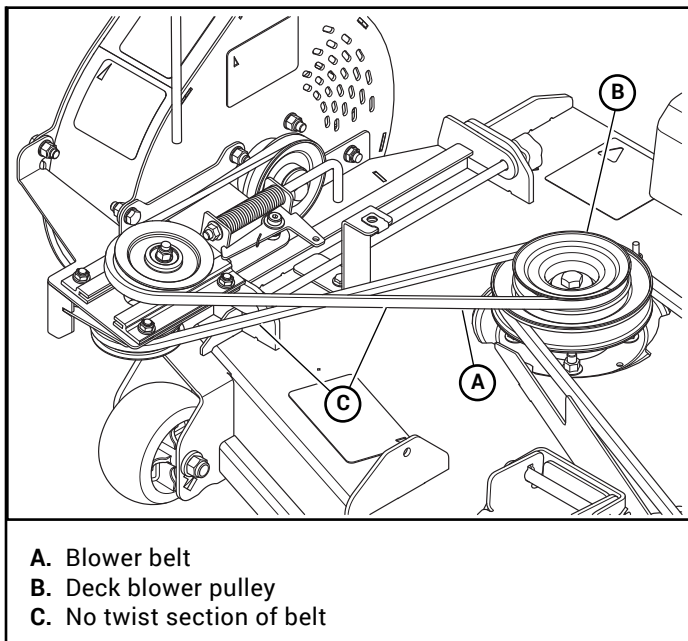

Figure 3-17
22. Install and route the blower belt around the deck blower pulley as shown. Use belt part number 608217 for 48" decks, 608218 for 54" decks, and 607963 for 60" decks. **NOTE:** Make sure the two longest sections of belt are not twisted. Figure 3-17